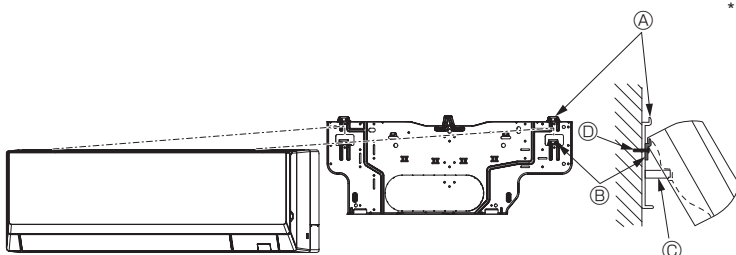

Fig. 3-12
- When the indoor unit cannot be hanged and lifted up with the regular hook (the dimension of 2.1. ⓐ (the clearance between the ceiling and the unit) is 75 mm, 2-61/64 inch or less), hang the unit on the lower hook for left piping. (Fig. 3-12)
(Fig. 3-12)